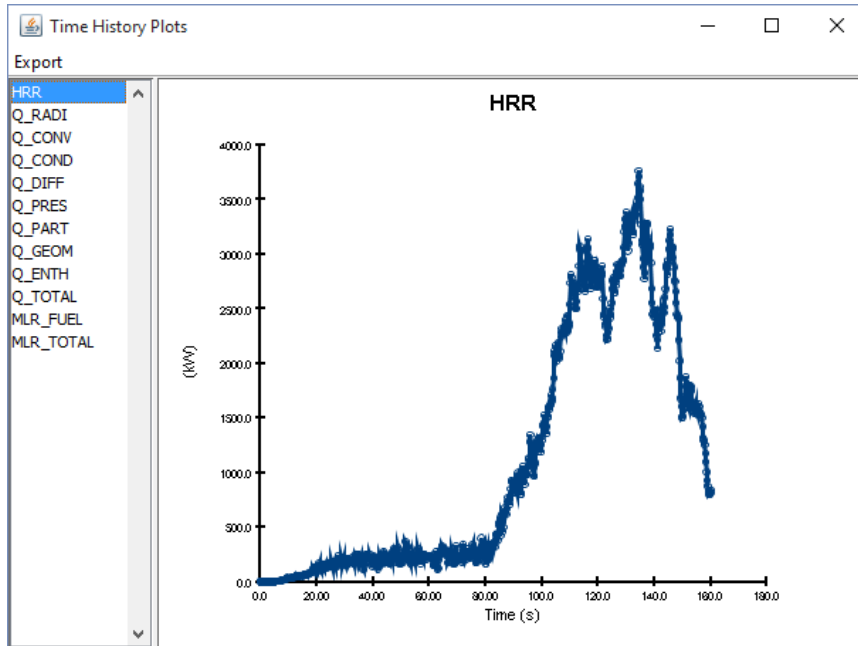

Figure 12. Heat release rate.
2. Plot the heat release rate as a function of time, Figure 12. This is an extreme fire with flashover.